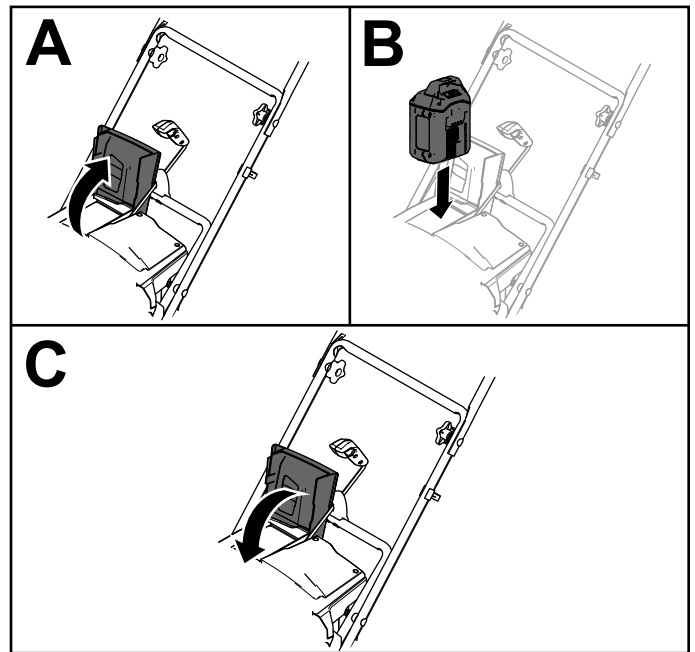

Figure 9
2. Lift up the battery-compartment lid (A of Figure 9).
3. Line up the cavity in the battery pack with the tongue on the machine and slide the battery pack into the compartment until it lock into place (B of Figure 9).
4. Close the battery-compartment lid (C of Figure 9).